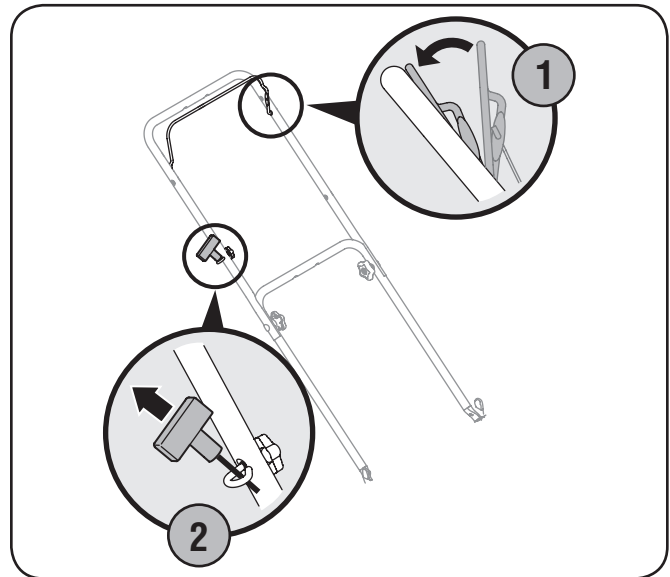

Figure 5-1
1. Standing behind the mower, depress the blade control handle and hold it against the upper handle. See Figure 5-1.